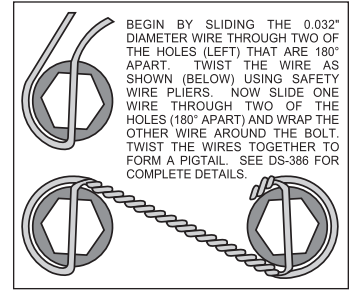

Figure 4. Safety Wire Diagram
- Orient the rotor (3) and the hat (2) as shown in Figure 1 and Photo 1. Attach rotor to hat using bolts (5) and washers (4). Using an alternating sequence, apply red *Loctite*® 271 to the threads, and torque to 155 in-lbs. For an added measure of security, the bolts may be safety wired using standard 0.032 inch diameter stainless steel safety wire as shown in Figure 4. Please refer to Wilwood's data sheet DS-386 (available at [www.wilwood.com/Pdf/DataSheets/ds386.pdf](http://www.wilwood.com/Pdf/DataSheets/ds386.pdf)) for complete safety wire installation instructions.